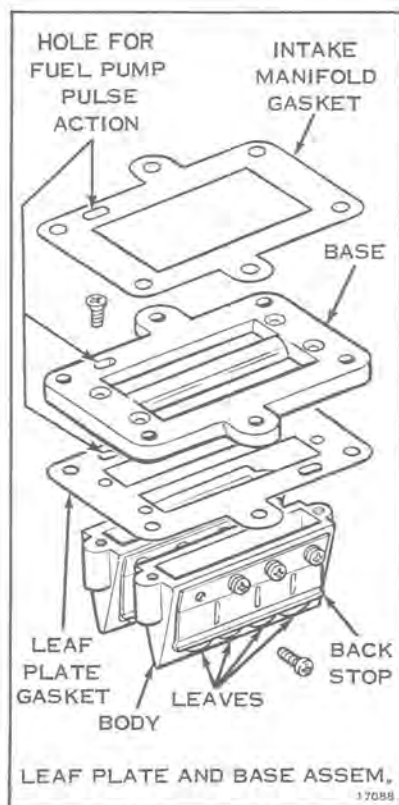

Figure 6-7
- Inspect the leaf valve assembly and disassemble if necessary (see Figure 6-7). Special caution is necessary in disassembling the leaf valve assembly. DO NOT damage or interchange the leaves.